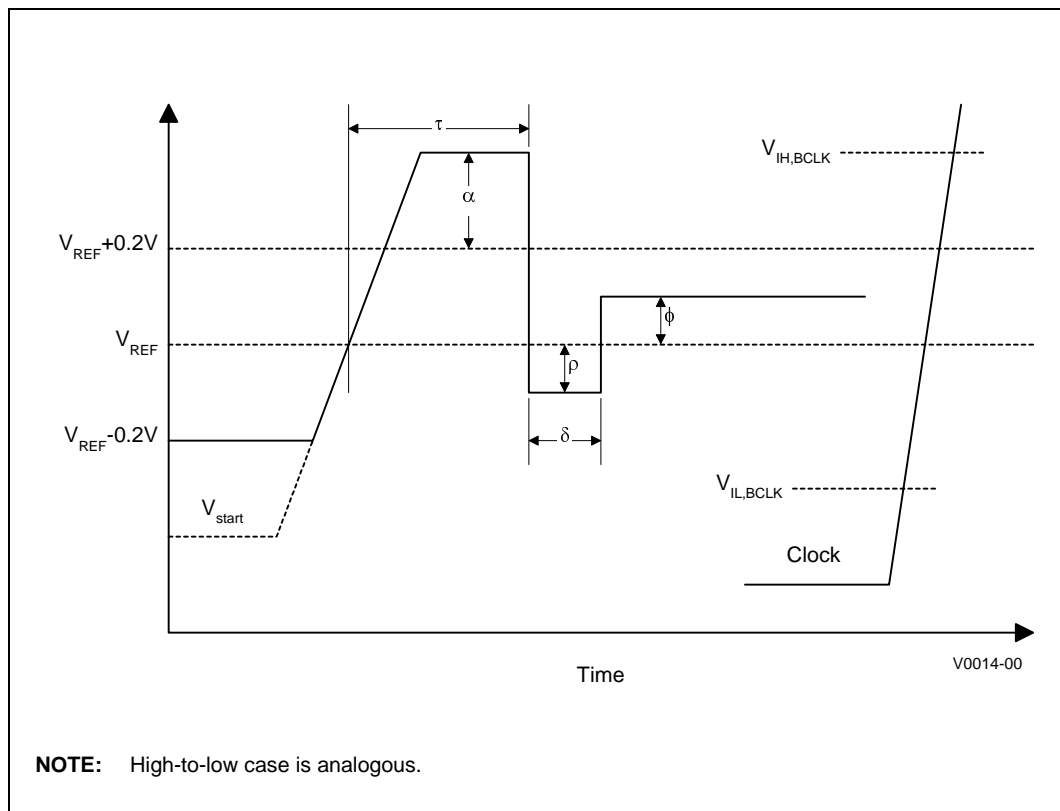

Figure 4.2 Low to High, Low Power GTL+ Receiver Ringback Tolerance
Table 4.2 and Figure 4.2 illustrate the Low Power
- Specified for the edge rate of 0.3 – 0.8 V/ns. See Figure 4.2 for the generic waveform.